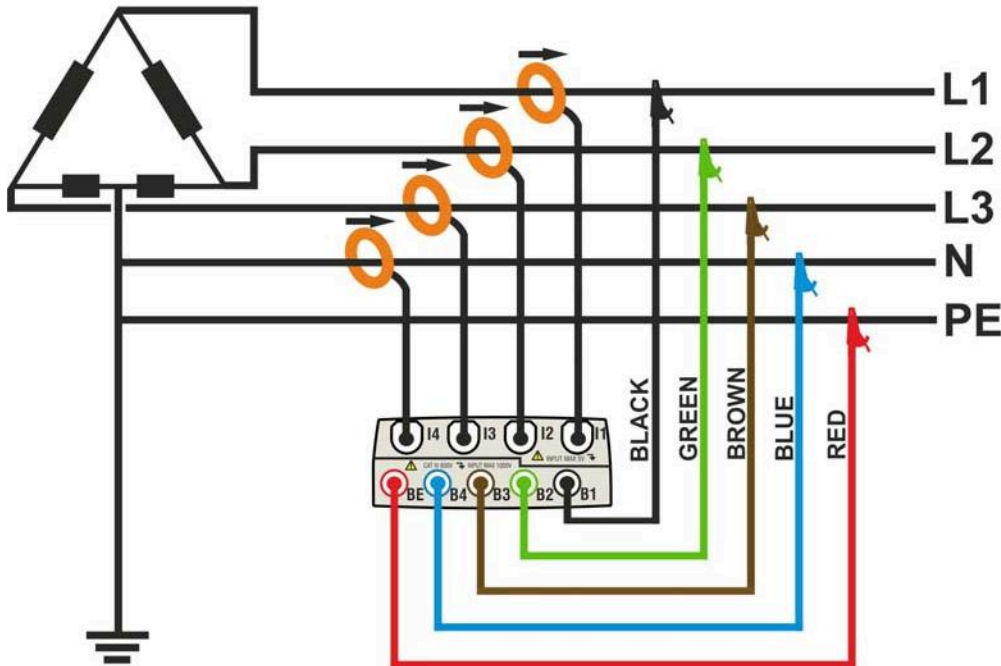

Fig. 169: Meter connection in a three phase 3PHL system
2. Connect voltage test leads on Phases L1, L2, L3, N and PE cables considering the colours as shown in Fig. 169. **Verify the result "123" at display relative to a correct phase sequence indication** (see § 5.2.4.1) and perform the corrections if necessary.
3. Connect the transducer current clamps on Phase L1, L2, L3 and N cables as shown in Fig. 169 respecting the clamp's arrow direction indicating the current standard sequence from generator to load. **On Real Time Values' section screens (selecting a 3 wire system preliminarily) always verify the positive value of Active Power and the power factor relative to load which should be normally inductive** before starting a recording. Reverse the clamp by 180 degrees on cables in case of negative readings.